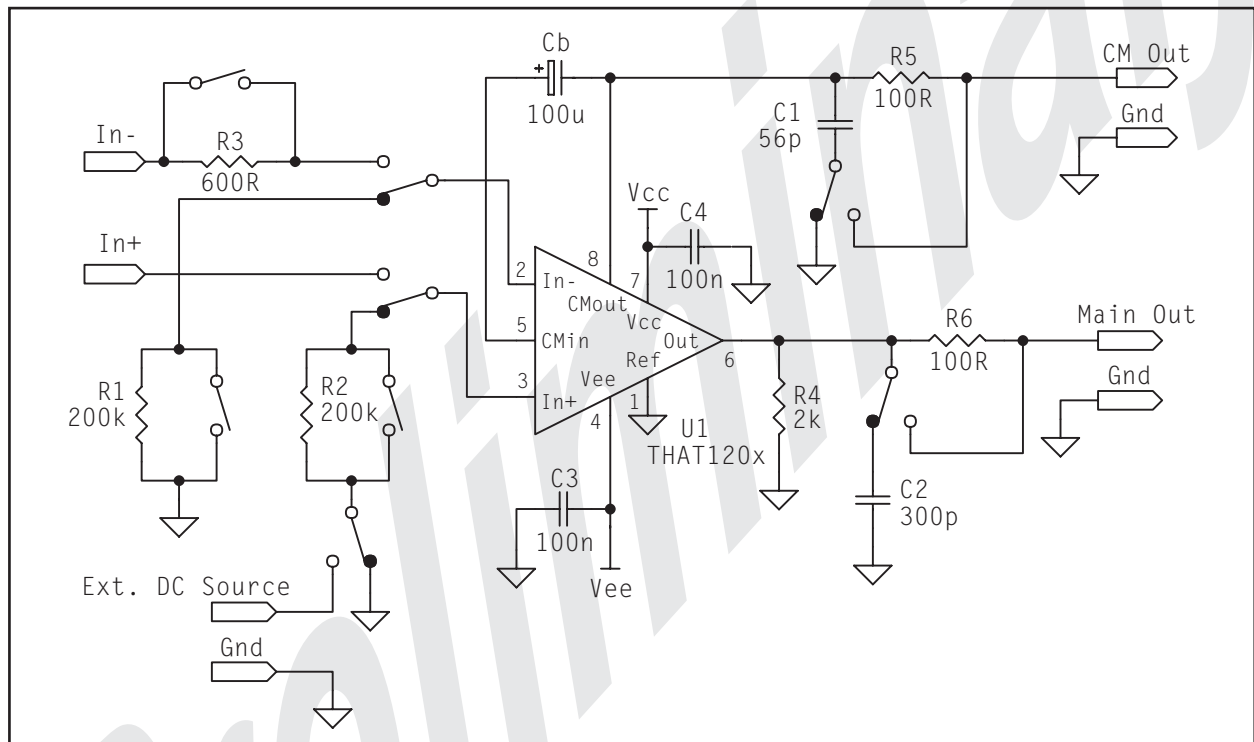

Figure 2. THAT1200-series test circuit
4. See test circuit in Figure 2.